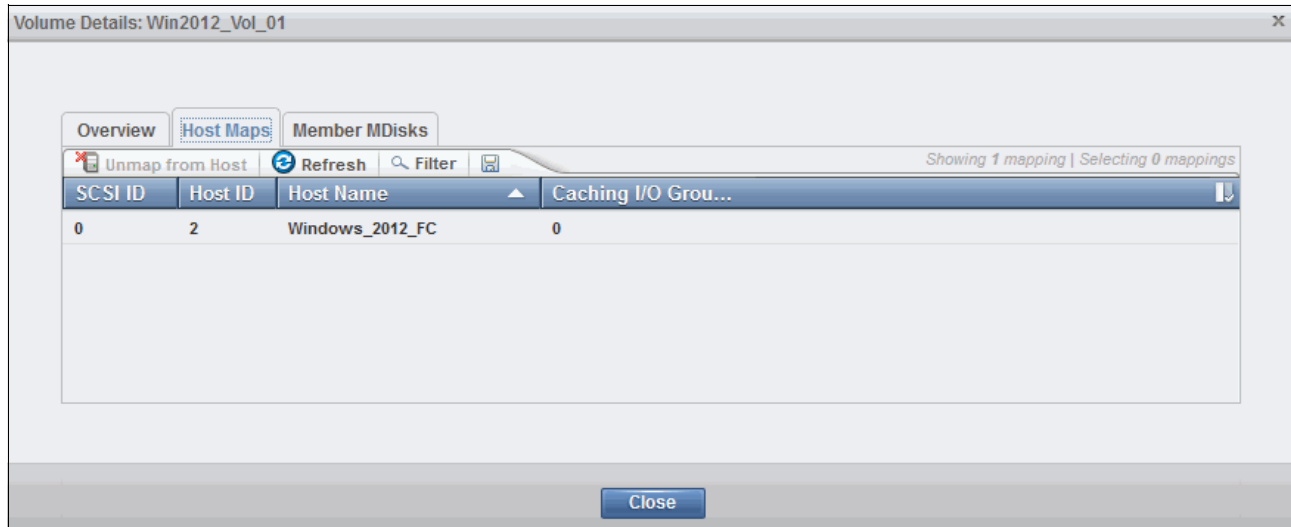

Figure 8-45 Volume to host mapping
1. Highlight a volume and select **View Mapped Host** from the Actions menu. The Host Maps tab of the Volume Details pane opens, as shown in Figure 8-45. In this example, host Windows_2012_FC is mapped to the Win2012_Vol_01 volume.